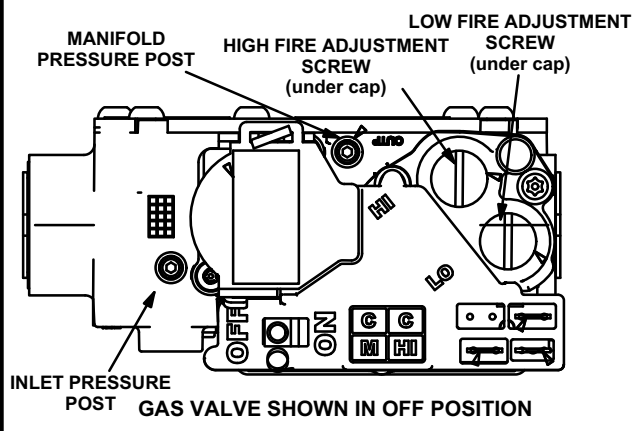

FIGURE 7
- 2 - Remove the access panel. Move the automatic gas valve switch to **OFF**. See figure 7.
- 6 - Move the switch on the gas valve to **OFF**. Do not force the switch. See figure 7.
An inlet pressure post located on the gas valve provides access to the supply pressure. See figure 7. Back out the 3/32 hex screw one turn, connect a piece of 5/16 tubing and connect to a manometer to measure supply pressure. Check supply pressure with unit on high fire. On multiple unit installations, check each unit separately and with other units operating. See table 2 for supply line pressure. Following supply pressure test, shut off unit, remove manometer and tighten pressure post hex screw.
A manifold pressure post located on the gas valve provides access to the manifold pressure. See figure 7. Back out the 3/32 hex screw one turn, connect a piece of 5/16 tubing and connect to a manometer to measure manifold pressure.
- 4 - After allowing unit to stabilize for 5 minutes, record low fire manifold pressure and compare to value given in table 2. If necessary, make adjustment. Figure 7 shows location of low fire adjustment screw.
- 5 - Repeat on high fire and compare to value given in table 2. If necessary, make adjustment. Figure 7 shows location of high fire adjustment screw.
- 1 - Connect test gauge to manifold pressure tap (figure 7) on gas valve.
- 4 - If necessary, make adjustments. Figure 7 shows location of high fire and low fire adjustment screws.